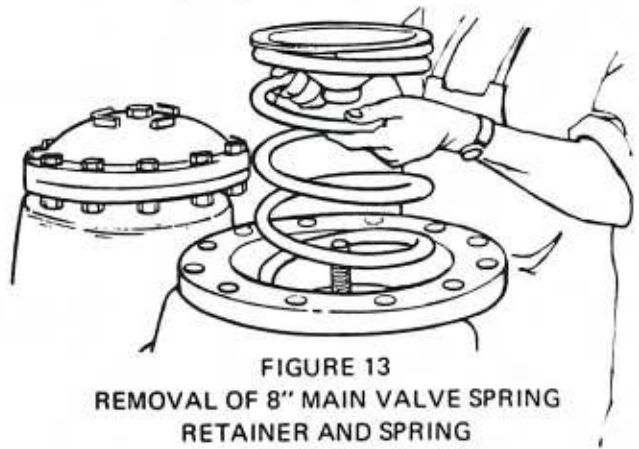

FIGURE 13
- g. Remove plate, spring retainer and spring. Remove remainder of valve assembly (Fig. 13 and 14).